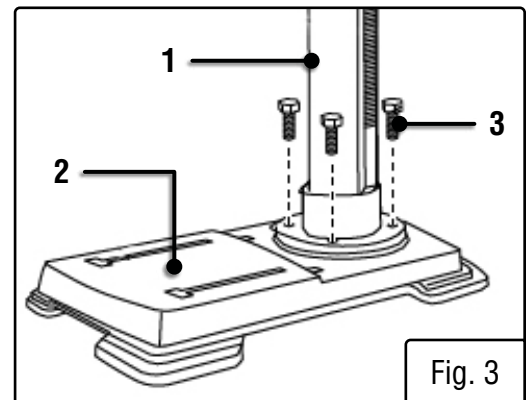

Fig. 3
ATTACHING COLUMN TO BASE (FIG. 3)
1. Place the column assembly (Fig. 3 - 1) on the base (Fig. 3 - 2), aligning the column support holes to the base holes.
2. Install a hex head bolt (Fig. 3 - 3) in each column support hole and tighten bolts using the adjustable wrench (not included).